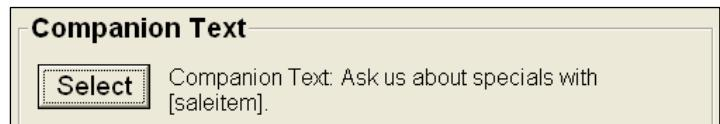

Figure 142
12. This will close the window and display your selection in the Companion Text section (see Figure 142).